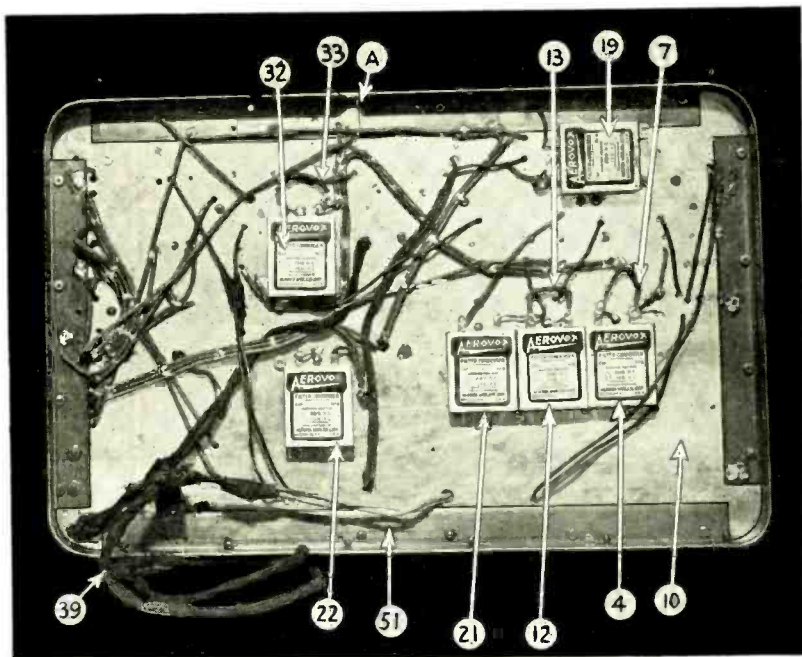
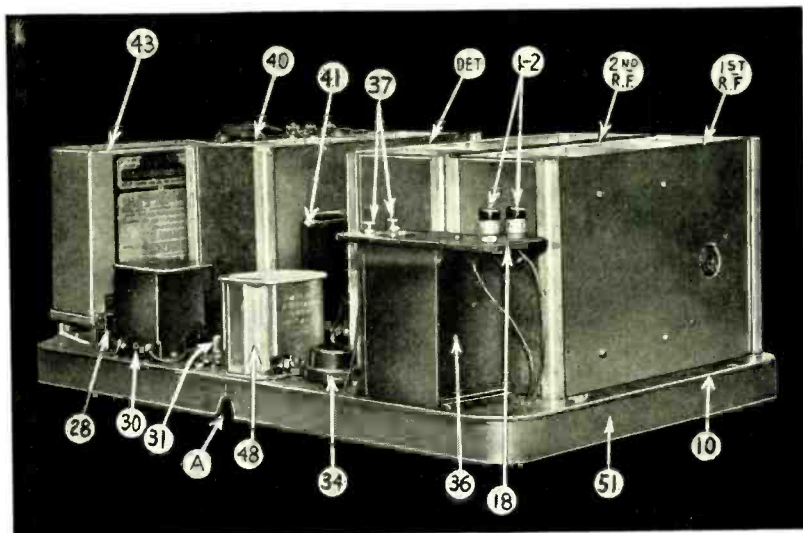

Fig. 4. Lower side of sub-panel. The aluminum sub-panel is raised by means of a brass angle cut and shaped as described in the text.
Fig. 3. This is a rear perspective of the new Peridyne, showing the audio equipment and filter block.
The six-foot length of angle brass is marked out according to the detail sketch, Fig. 13. The four two-inch sections scribed out are removed to permit bending to form the four corners. This is clearly shown in the photograph, Fig. 4. (The particular brass angle used was one-inch across each of the two faces; it is suggested that a brass angle one inch on one side and one-half-inch on the other, the one-half-inch face forming the "bed" upon which the aluminum sub-panel may rest, could be used with greater ease in working.) The brass angle is bent to fit flush with the edge of the shaped aluminum sub-panel, as the photographs show; the two being held together with machine screws placed around the form about every three inches apart. Where the two edges of the brass angle join (A), a "V" is cut; through this, at the rear of the sub-panel, the A.C. line is run. (Fig. 3.)
The space remaining in the sub-panel is used for the power supply. The power compact is mounted near the front edge of the chassis, leaving sufficient room between the compact and the edge for the mounting of the semivariable voltage divider (44). Near the rear edge and side of the chassis, the condenser block (43) is mounted. This leaves sufficient space for the rectifier tube (42) and socket, as shown in Figs. 1 and 5. All by-pass and output condensers are fastened to the bottom of the chassis (Fig. 4).